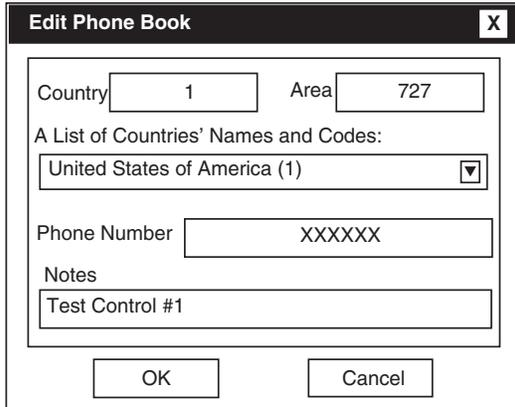

Figure 9-13 Edit Phone Book Dialog Screen
- b. Select **Add Number**, GE-2029A will display the **Edit Phone Book** dialog screen (Figure 9-13).